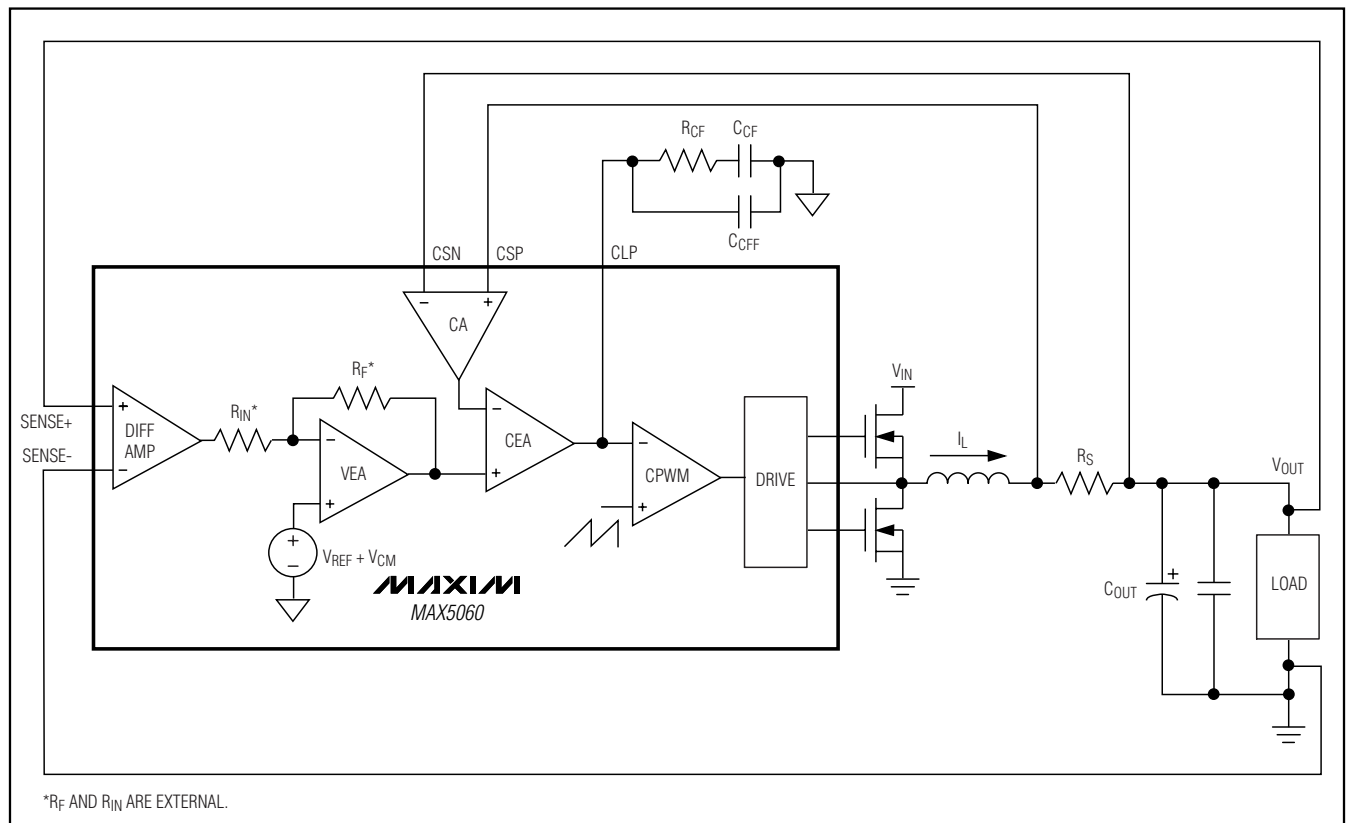

Figure 5. MAX5060 Control Loop
The MAX5060/MAX5061 use an average-current-mode control scheme to regulate the output voltage (Figure 5). The main control loop consists of an inner current loop and an outer voltage loop. The inner loop controls the output current ( $I_{PHASE}$ ), while the outer loop controls the output voltage. The inner current loop absorbs the inductor pole reducing the order of the outer voltage loop to that of a single-pole system.
The peak-current comparator provides a path for fast cycle-by-cycle current limit during extreme fault conditions such as an output inductor malfunction (Figure 5). Note the average current-limit threshold of 26.9mV still limits the output current during short-circuit conditions. To prevent inductor saturation, select an output inductor with a saturation current specification greater than the average current limit. Proper inductor selection ensures that only the extreme conditions trip peak-current comparator, such as a broken output inductor. The 60mV threshold for triggering the peak-current limit is twice the full-scale average current-limit voltage threshold. The peak-current comparator has only a 260ns delay.
The MAX5060/MAX5061 has a transconductance current-error amplifier (CEA) with a typical  $g_m$  of 550 $\mu$ S and 320 $\mu$ A output sink- and source-current capability. The current-error amplifier output CLP, serves as the inverting input to the PWM comparator. CLP is externally accessible to provide frequency compensation for the inner current loops (Figure 5). Compensate (CEA) so the inductor current down slope, which becomes the up slope to the inverting input of the PWM comparator, is less than the slope of the internally generated voltage ramp (see the *Compensation* section).
The PWM comparator (CPWM) sets the duty cycle for each cycle by comparing the output of the current-error amplifier to a 2Vp-p ramp. At the start of each clock cycle, an R-S flip-flop resets and the high-side driver (DH) turns on. The comparator sets the flip-flop as soon as the ramp voltage exceeds the CLP voltage, thus terminating the ON cycle (Figure 5).
The differential amplifier (DIFF AMP) facilitates output-voltage remote sensing at the load (Figure 5). It provides true-differential output voltage sensing while rejecting the common-mode voltage errors due to high-current ground paths. Sensing the output voltage
Set the voltage-positioning window ( $\Delta V_{OUT}$ ) using the resistive feedback of the voltage-error amplifier (VEA). Use the following equations to calculate the voltage-positioning window (Figure 5):